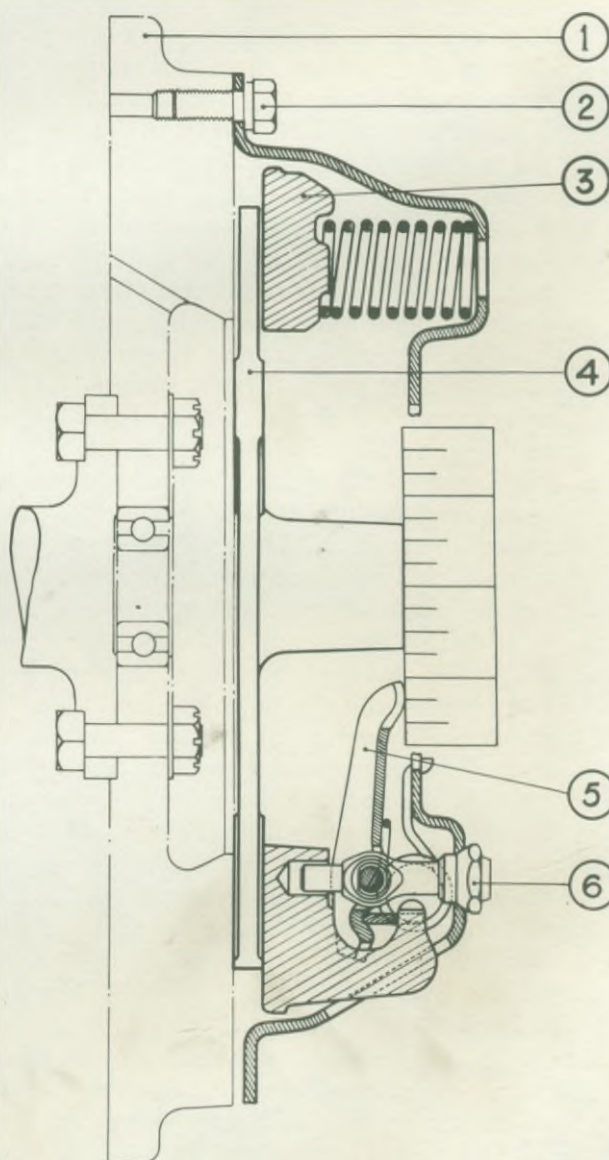

Fig. 3. Adjusting release levers.
2. Slacken the holding screws (2), Fig. 3, a turn at a time by diagonal selection until the thrust spring pressure is relieved. Remove the screws and lift the complete clutch away from the flywheel. Remove the driven plate assembly.
2. Fit the cover assembly to the flywheel by means of the holding screws (2), Fig. 3, tightening them a turn at a time by diagonal selection. Do not remove the dummy shaft until all the screws are securely tightened. Remove the dummy shaft.
(See Fig. 3)